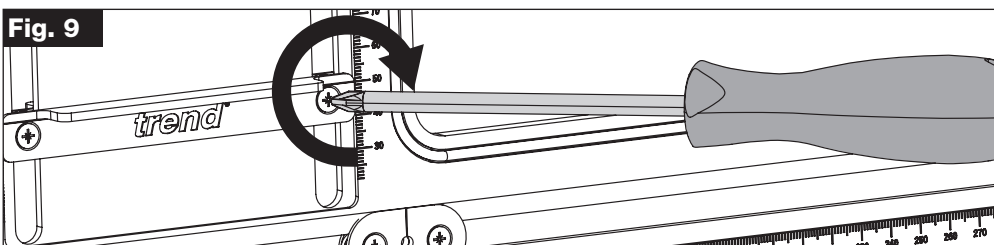

Fig. 10
- Calculate the required hole position of the handle/knob relative to the top/bottom of the door/drawer edge, and move the Short Guide accordingly (Fig. 10).